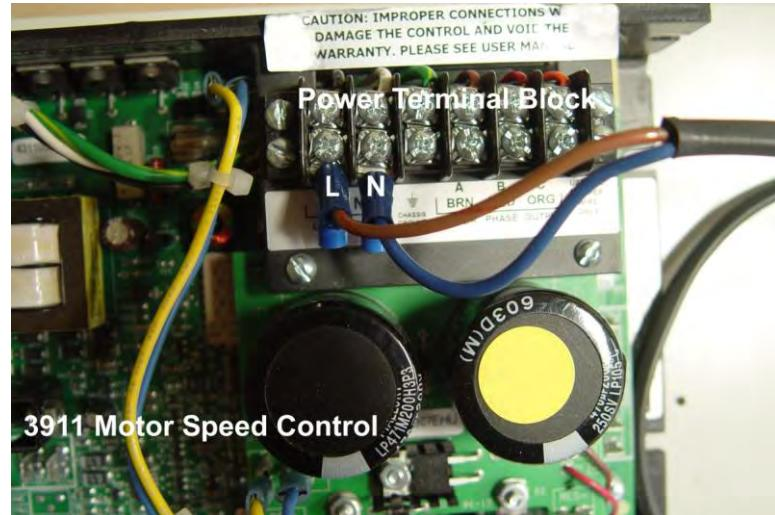

Figure 2 Power connect from 3984 module
4.9 Connect power (see Figure 2). Loosen screws on the 3911 Motor Speed board terminal block marked L and N. Slip the brown power wire terminal into the L screw then tighten. Slip the blue wire terminal into the N screw then tighten. Snap the two fuse blocks onto the DIN rail next to the existing fuse block.